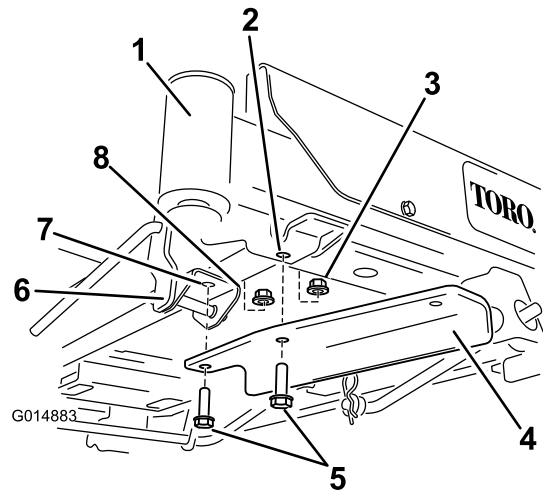

Figure 7
- For machines with a foot assist lift pedal: The washers will not be needed. Instead, remove the forward fasteners in the foot assist lift pedal bracket. Secure the bracket using two bolts and two lock nuts (Figure 7). One locknut is from loose parts and the other is reused from earlier removal.